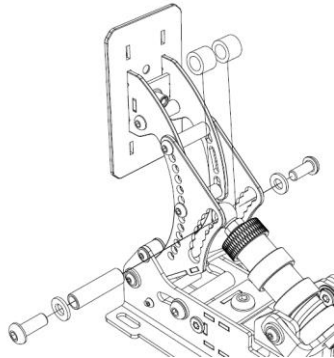

fig. 13. The first stage of changing
5. move the eyebolt securing the spring to the desired height and screw it in the correct order of the elements [fig.13];